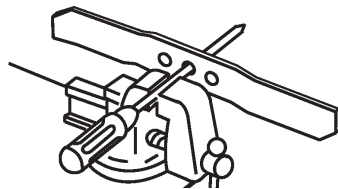

Figure 21
1. Check the balance of the blade by placing the center hole of the blade over a nail or a screwdriver shank clamped horizontally in a vise (Fig. 21).